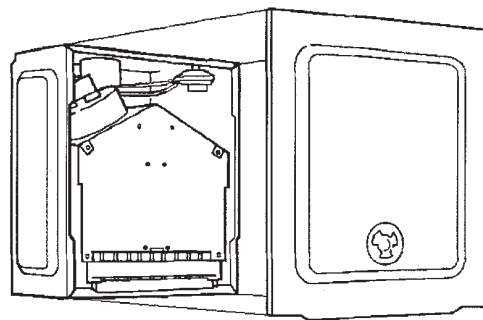

Fig. 23
8.5 Room Sealed Chamber Front Cover Refer to fig. 23.